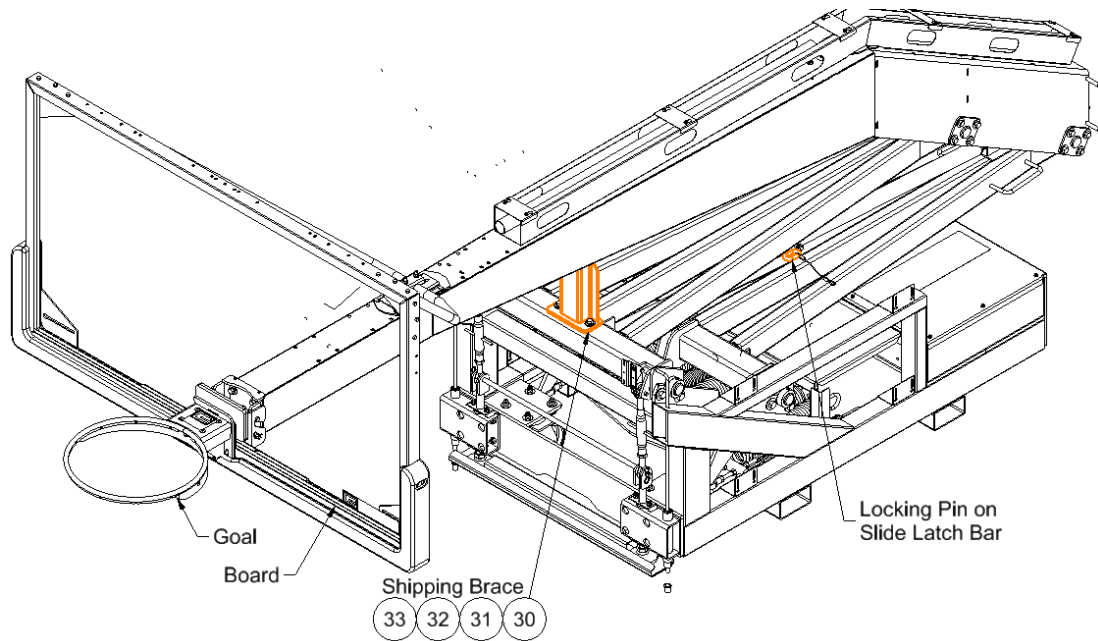

Figure 12
- With board and goal mounted, confirm that the Locking Pin on the Slide Latch Bar is in place as shown in figures 12 & 17. Then, remove the (4) ½-13 Hex Bolts to disassemble the Shipping Brace from the main boom and front upright. Store the Brace and Hardware in a location for future use when replacing backboards or transporting the unit.